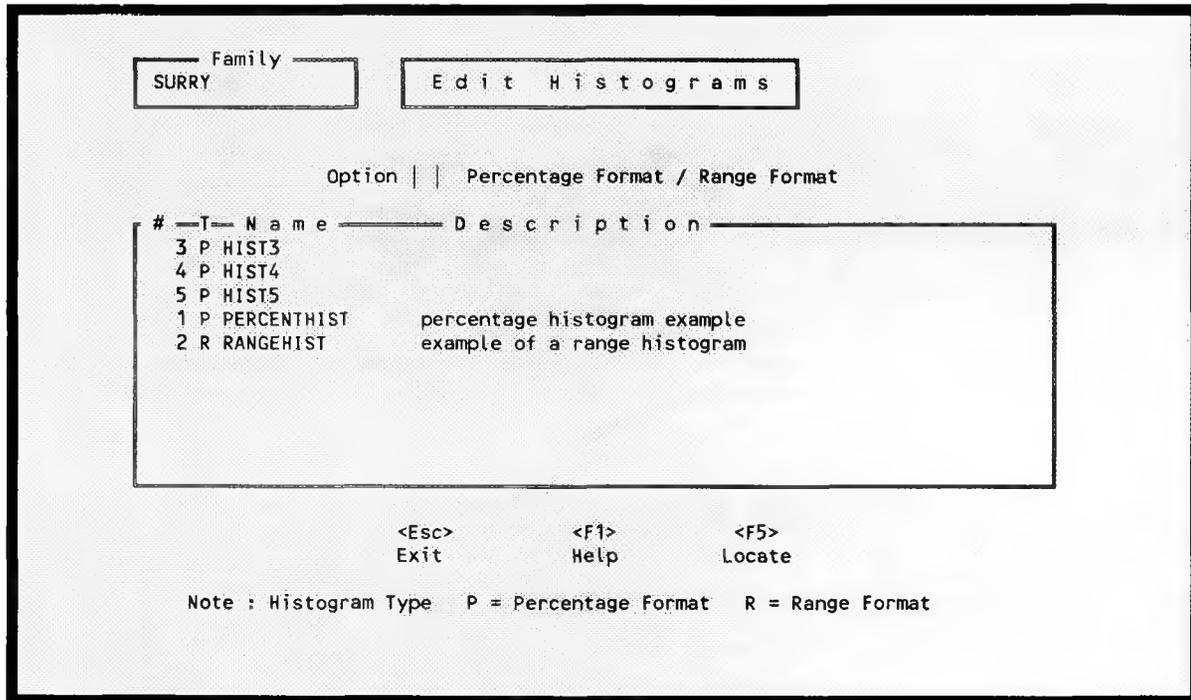

Figure 173. Select percentage or range format for the histogram.
7.2.7.2 Add Histograms. This option allows you to create a user-defined distribution type. To add a new histogram to the data base, type an <A> (Add) in the option field and press <Enter>. At this point, Figure 173 is displayed and you are given the choice of adding the histogram data in either a percentage format or in a range format.